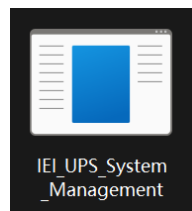

Figure 4-3: IEI AUPS2-B20 Application Overview
- Step 2:** After unzipping the downloaded file, run the IEI_UPS_System_Management file to start the application (**Figure 4-3**).